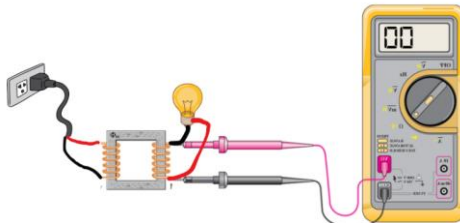

Fig. 3.32 Measurement of input voltage in the secondary side of the Transformer
Step 4 – Now connect the probes of the multimeter to the secondary winding and measure the voltage on the secondary side. Figure 3.32 illustrates the secondary winding voltage